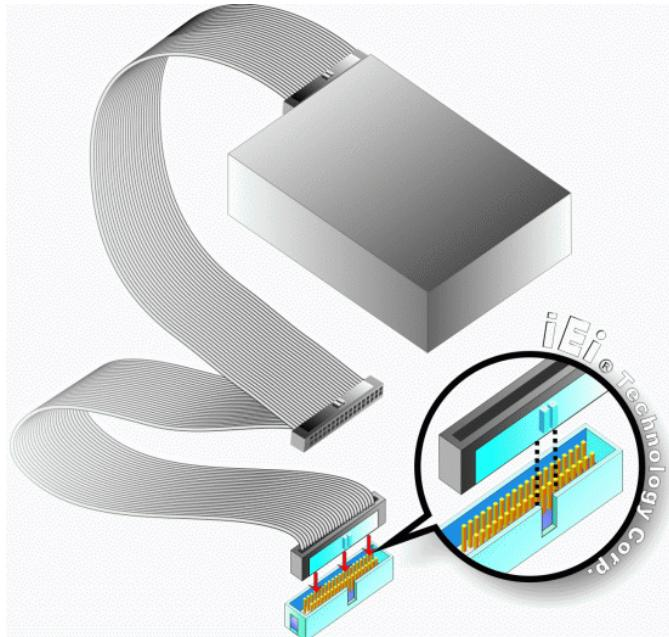

Figure 5-13: IDE Cable Connection
Step 2: Insert the connector. Connect the IDE cable connector to the onboard connector. See Figure 5-13. A key on the front of the cable connector ensures it can only be inserted in one direction.